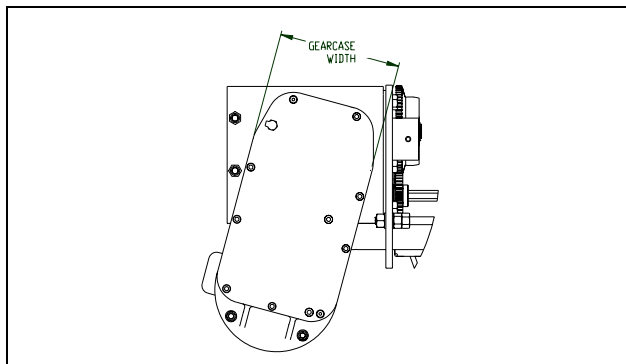

FIGURE 4-2. Gearcase Width Illustration.
- e) Refill through filler hole to proper level (bottom of oil level plug hole) using **GCOH** (Paragraph 4-7). The amount of oil required depends on overall size of gearcase; two sizes are used for “World Series” hoists. To determine size and amount of oil to add, measure width of hoist gearcase (see Figure 4-2). The “B” Frame measures 11-3/4” and requires approximately 6 quarts of oil. The “C” Frame’s width is 14-1/2” and requires approximately 12 quarts of oil.